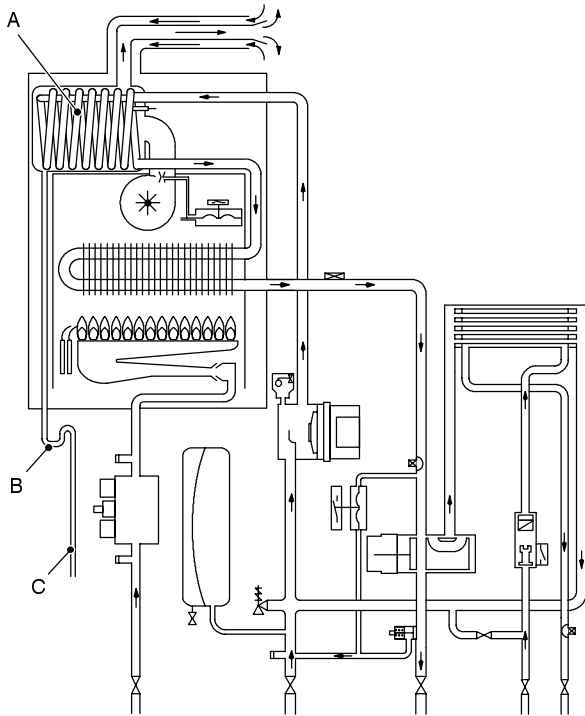
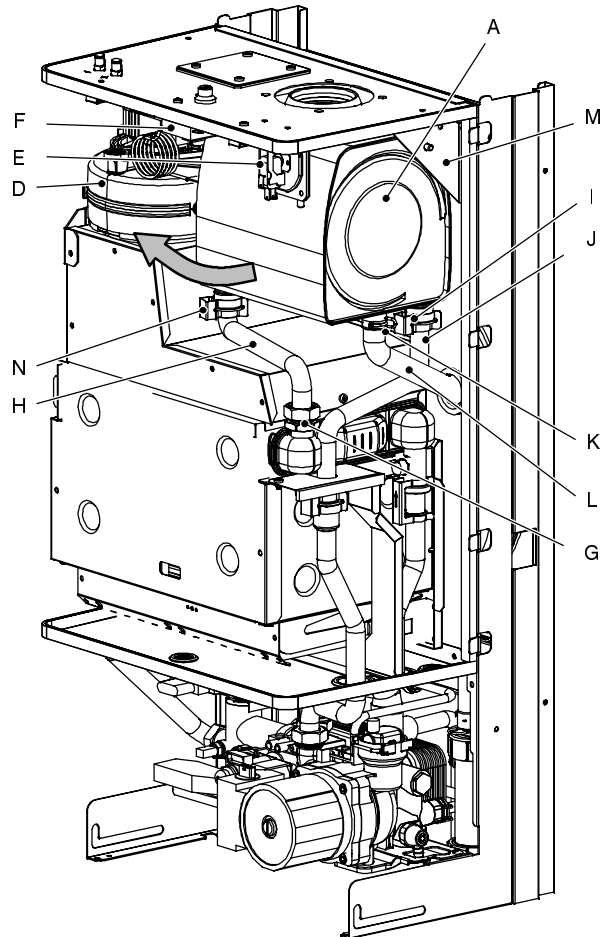

Fig. 12
Fig. 13
The return water flows through the condensing heat exchanger *A* in Fig. 12 and Fig. 13.
- 3 Remove the fan *D* in Fig. 13 (see section 18.3) and the air pressure switch *E* (see section 18.5).